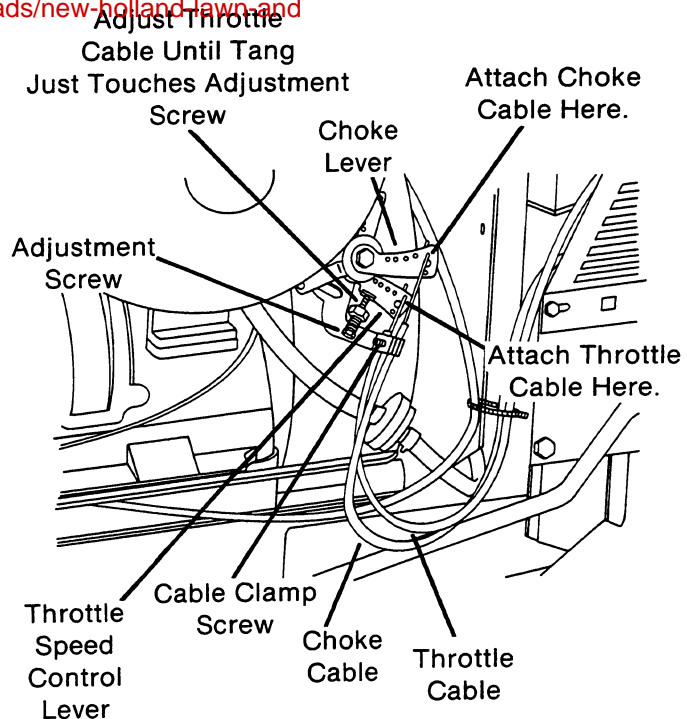

FIG. 4
- I. Loosen cable clamp screws, securing throttle and choke cables to left side of engine, far enough so both cables can be removed. (Fig. 4) Unhook throttle cable end (inner cable) from throttle speed control lever. Unhook choke cable end (outer cable) from choke lever.